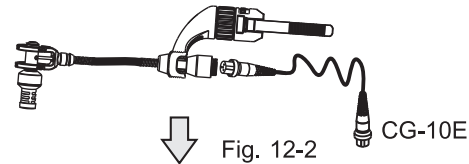

Fig. 12-2
- (B) Connect CG-10E microphone cable to the microphone, Fig. 12-2.